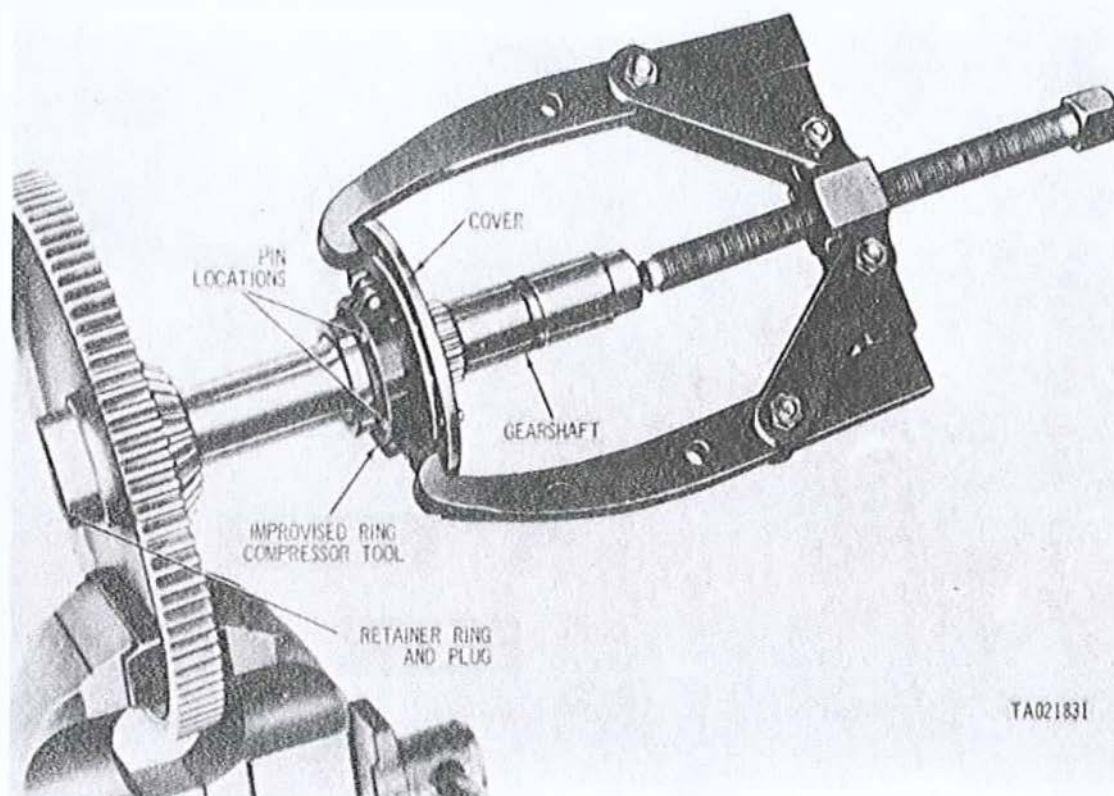

Figure 3-237. Removing advance vane housing cover.
(3) Install accessory drive gearshaft in a soft-jawed vise and using a gear puller remove advance vane housing cover (fig. 3-237).